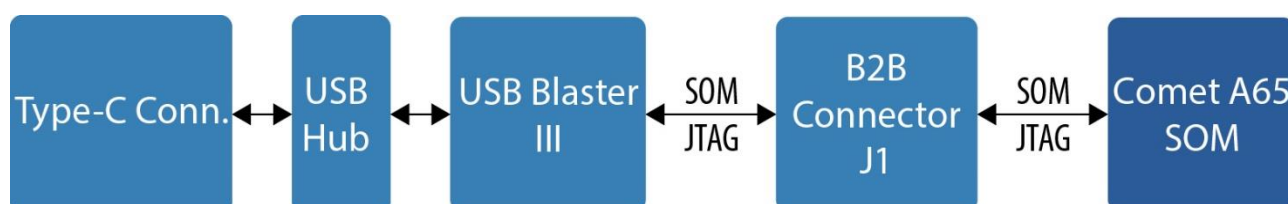

Figure 2-13 Block diagram of the USB Blaster III circuit
**Figure 2-13** provides the block diagram for the on-board USB Blaster III circuitry. **Figure 2-14** shows the physical locations of the USB Type-C connector.